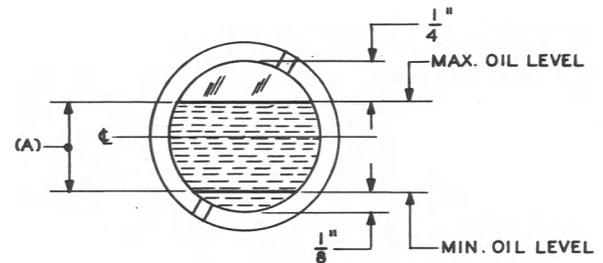

Fig. 2 - Oil Level Limits
- (2) Gear Cases - Drives With Integral Oil Pumps: Fig. 2(A) - The running level of the oil shall not be higher than $\frac{1}{4}$ inch below the top, and not lower than $\frac{1}{8}$ inch above the bottom of the oil sight.